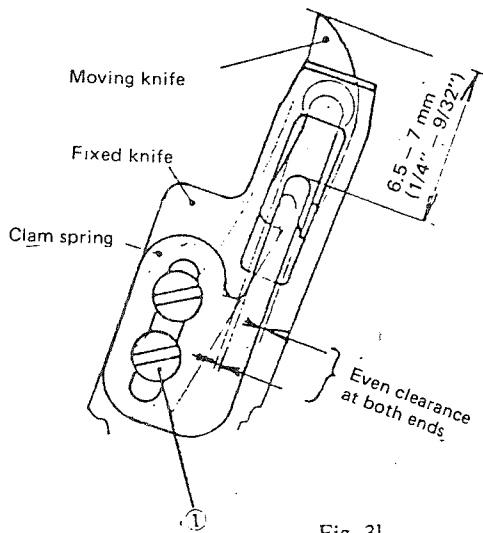

Fig. 31
<p>1. Loosen two screw ① in Fig. 31.</p> <p>2. Adjust the position of the clamp spring as specified (6.5 ~ 7.0 mm) and tighten two screws.</p> <p>(CAUTION) When tightening the screws, make sure that there are even clearances at both ends of the slot in the moving knife.</p>	<p>If the distance is too great ;</p> <ul style="list-style-type: none"> ○ The machine may fail to made some stitches at the start of sewing. ○ Especially when thick thread is used, it may entangle with the hook causing the mechanism to lock up. <p>If the distance is too small ;</p> <ul style="list-style-type: none"> ○ Troubles similar to the above may occur. <p>If the clearances at the slot in the moving knife are not even ;</p> <ul style="list-style-type: none"> ○ The clamp spring may be broken.